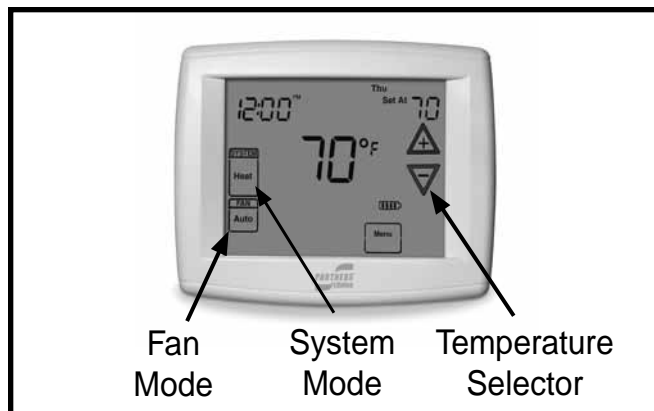

Figure 1. Digital Thermostat
1. Set the thermostat's system mode to COOL or AUTO and change the fan mode to AUTO. See Figure 1.
1. Set the thermostat's system mode to HEAT or AUTO and change the fan mode to AUTO. See Figure 1.
Set the thermostat fan mode to ON (Figure 1). The indoor blower starts immediately, and will run continually until the fan mode is reset to AUTO.
Change the thermostat's system mode to OFF and the fan mode to AUTO (See Figure 1). **NOTE:** The system will not operate, regardless of the temperature selector setting.